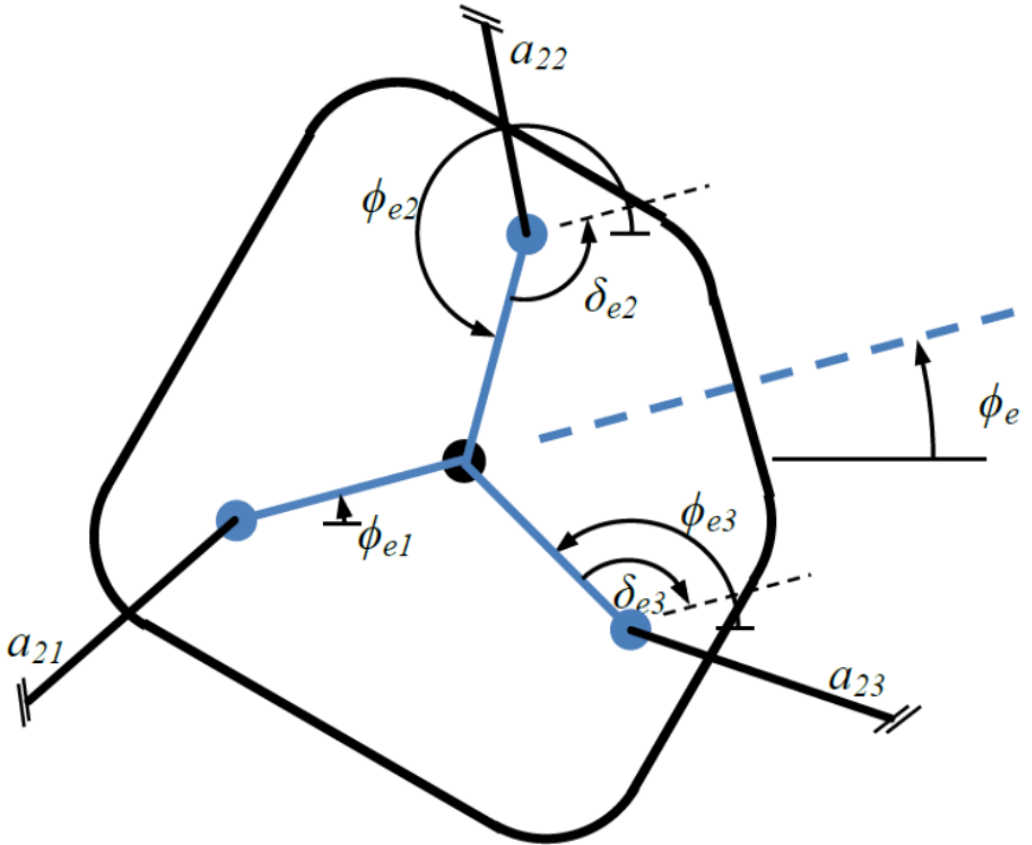

Figure 2: Virtual links and offset angles.
The offset angles are input via the vector $dh.delta$ in $data_RRR3$. The offset angles are the angles from the virtual links, a_{3j} , to the actual end effector orientation, ϕ_e . This is shown in Fig. 2. Also, recall the equations below to find these angles.
- Determine offset angles δ_{ej} for *dh.delta*, as shown in Fig. 2.